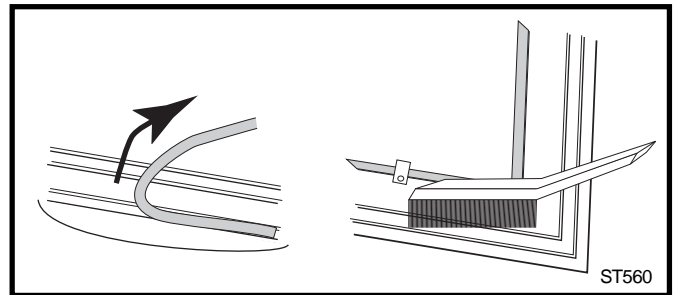

Fig. 29 Remove gasket then clean channel with wire brush.
2. Wearing safety goggles, use a wire brush or the tip of a screwdriver to clean the channel of any remaining cement or bits of gasket. (Fig. 29)